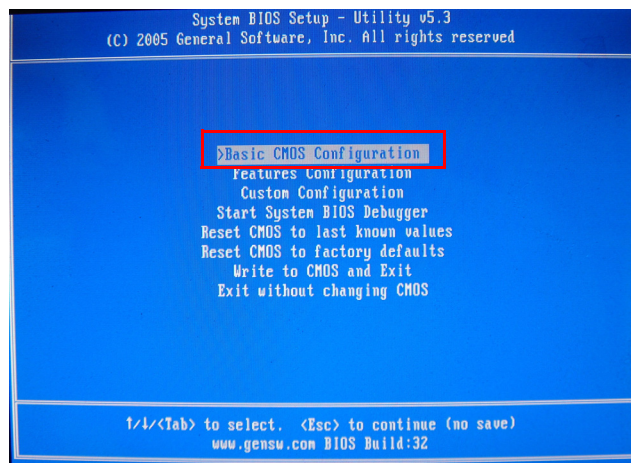

Figure 5-4 System Bios Setup page
- 7 Select **Basic CMOS Configuration** and press **Enter** as shown in Figure 5-4.